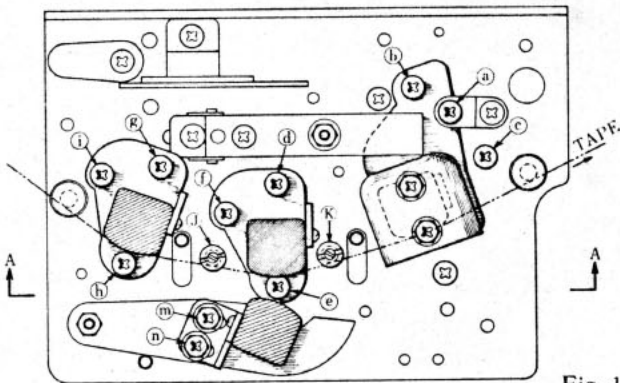

Fig. 1
1.1 Adjustment of Head Height (See Figures 1 and 2)
To adjust, turn Screw (a) (Figure 1) during "Normal Play" position so that the upper edge of the upper core of the Playback Head is the same height as the upper edge of the tape. Adjust by turning Screw (b) (Figure 1) during "Reverse Play" position so that the lower edge of the lower core of the Playback Head is the same height as the lower edge of the tape.
Adjust with Screws (d), (e) and (f) (Figure 1) so that the upper edge of the upper core is the same height as the upper edge of the tape.